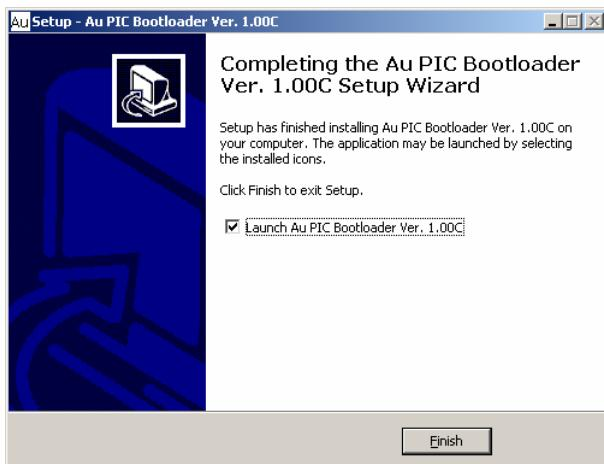

Figure C-8
8. After a few seconds, "Completing the Au PIC Boot-loader Setup Wizard" window shows up. Check "Launch Au Boot-loader", and click "Finish" to exit setup (Figure C-8).